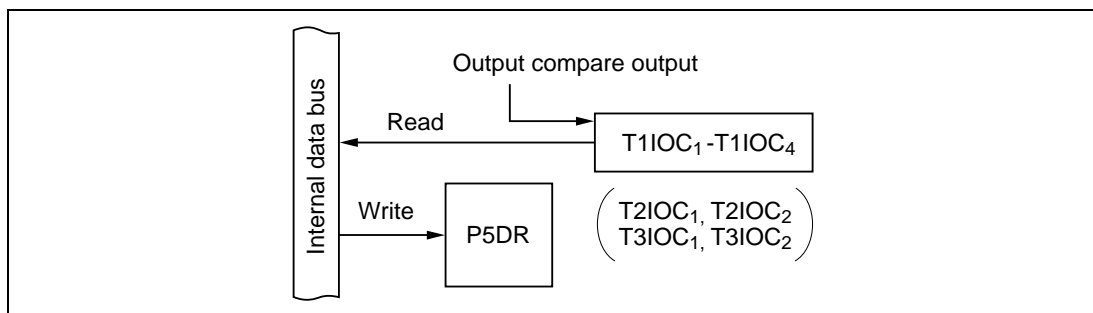

Figure 10-31 Output Compare Pins (Modes 1 to 7)
(3) Timer Output Pins (Modes 1 to 7): Figure 10-31 shows a block diagram illustrating the output compare function. Table 10-23 indicates register read/write data. When a pin in port 5 is used for output compare, the value in the port 5 data register (P5DR) has no effect on the timer output. P5DR can be read to monitor the timer output level (T1IOC₁ to T1IOC₄, T2IOC₁, T2IOC₂, T3IOC₁, T3IOC₂).